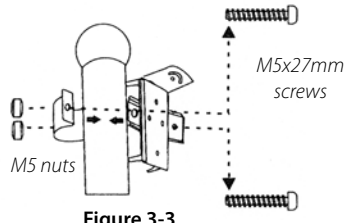

Figure 3-3
3). Attach to post with 'U' shaped bracket (Figure 3-3) . Using (2) M5 nuts and (2) M5x27mm screws attach 'U' bracket around post. Tighten securely.